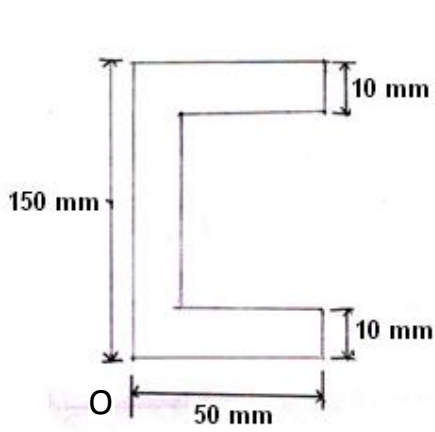

Fig. 10
Q.11	(a) Differentiate between Centroid and Center of gravity (b) Locate the centroid of the channel section shown in fig. 10 about point 'O'.